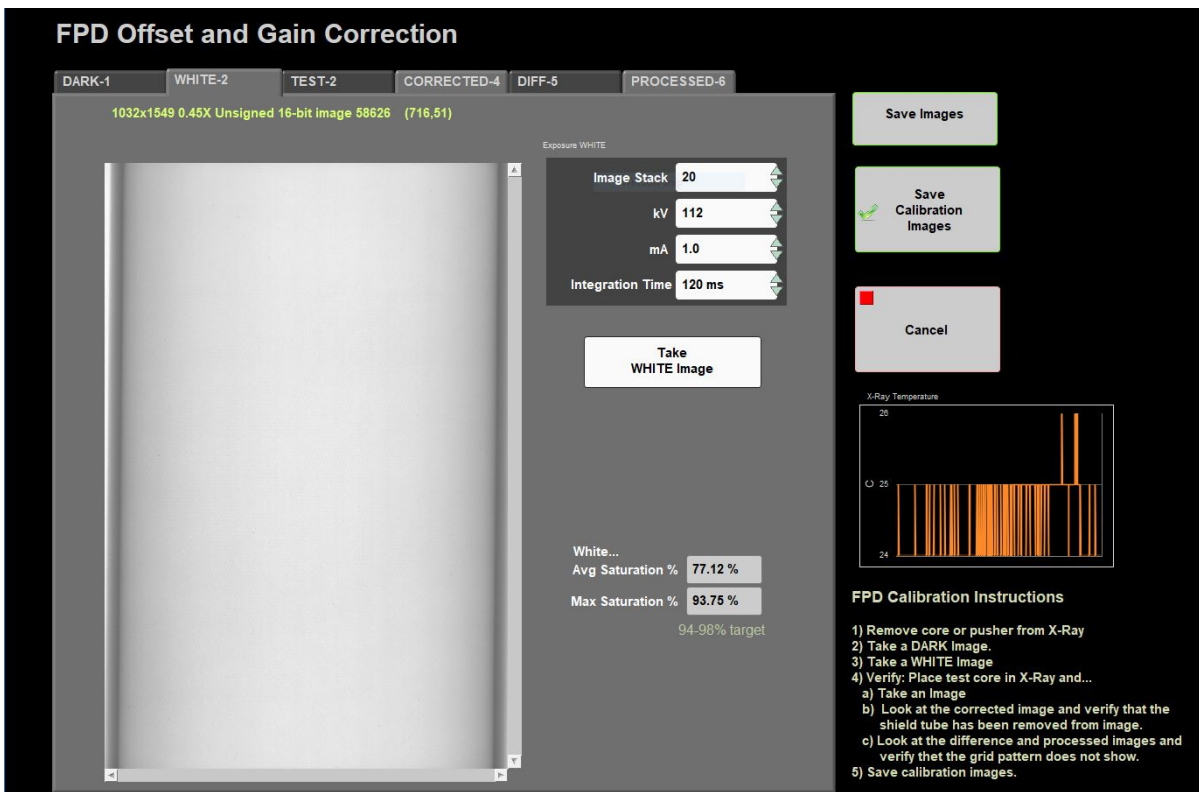

Figure 24- White Image tab in the detector calibration window
1. Select the tab labeled WHITE-2 (**Figure 24**).
3. Check the saturation value and confirm that it is in the target range of 94-98%. If not, adjust the exposure values and repeat (**Figure 24**).